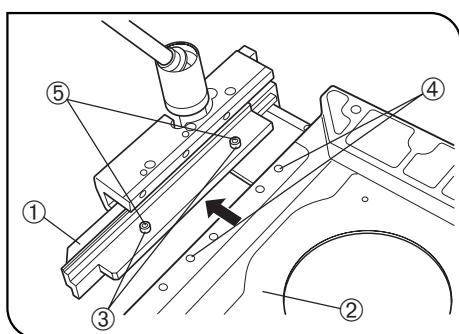

Fig. 87
(Figs. 87 to 89)
1. Invert the mechanical stage upside down ① Also invert the IX2-SP or IX2-KSP plain stage ② and place it on top of the inverted mechanical stage. (Fig. 87)
2. Align the two mounting holes ③ on the mechanical stage with the mounting holes ④ on the plain stage. Insert the two clamping screws ⑤ and tighten using the Allen screwdriver.